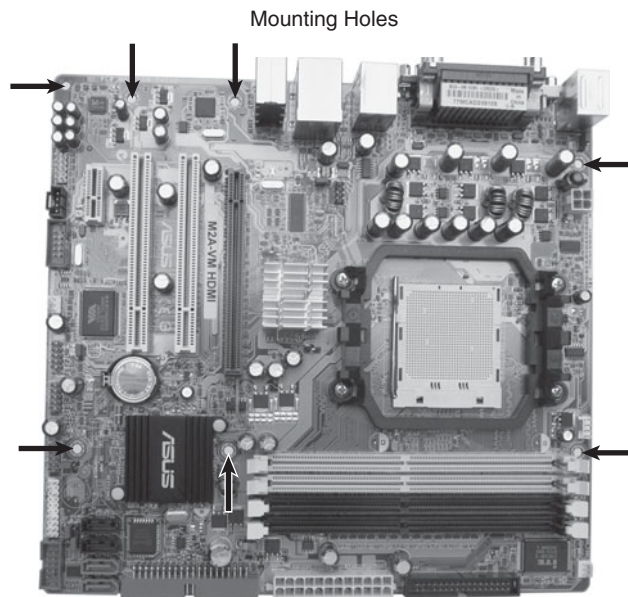

FIGURE 14.8
7. Note which case holes correspond to the holes in the motherboard (see Figure 14.8). You might need to use a flashlight to ensure that there’s a case hole under each motherboard hole.